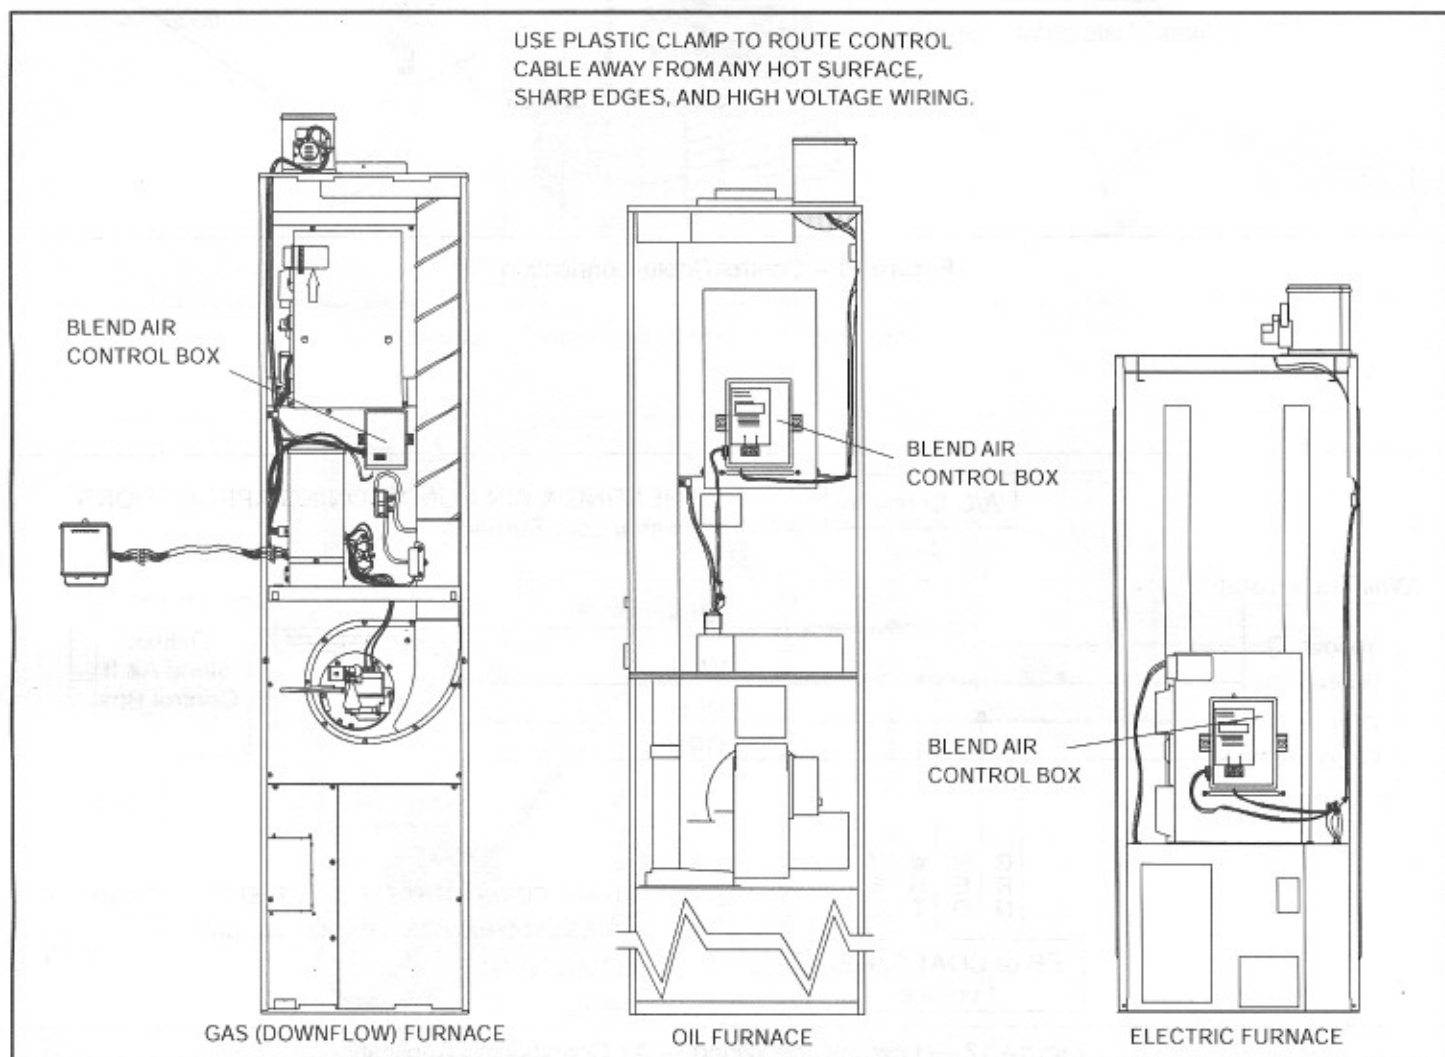

Figure 10 - Control Box Locations
1. Install lower control box. Refer to FIGURE 10 for proper mounting location.